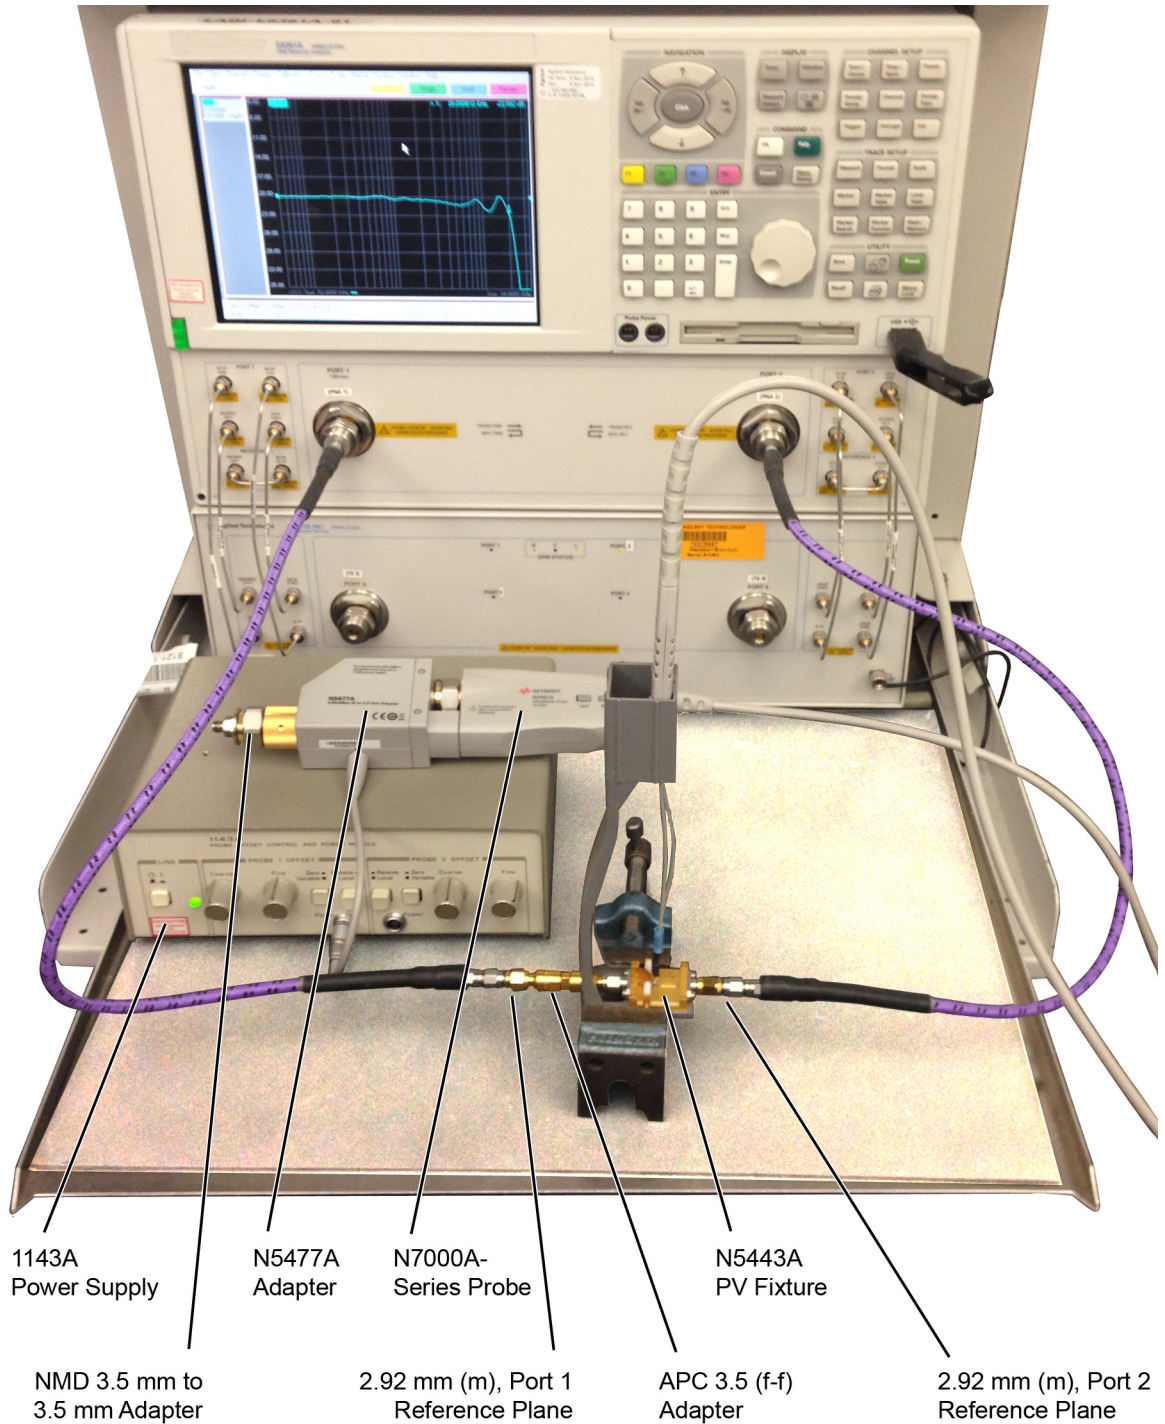

Figure 103 Test Setup for Measuring V_{in} of Probe
- 3 Connect the APC 3.5 (f-f) adapter, provided with the N5443A PV fixture, to the N5443A, as shown in **Figure 103**. Use a small bench vise to steady the N5443A PV fixture on the test surface.